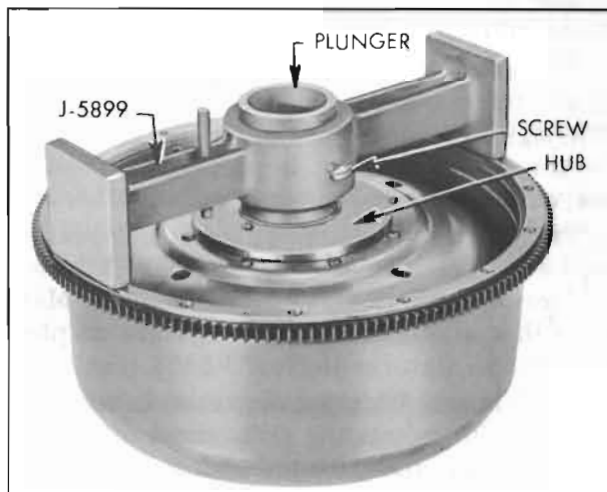

Figure 5-111—Gauge J 5899 on Pump and Turbine
5. Install Converter Clearance Gauge J 5899 on converter pump flange, making sure that indicator post does not contact the turbine support. Loosen wing screw, firmly press gauge plunger down against first turbine hub and tighten wing screw. See Figure 5-111.